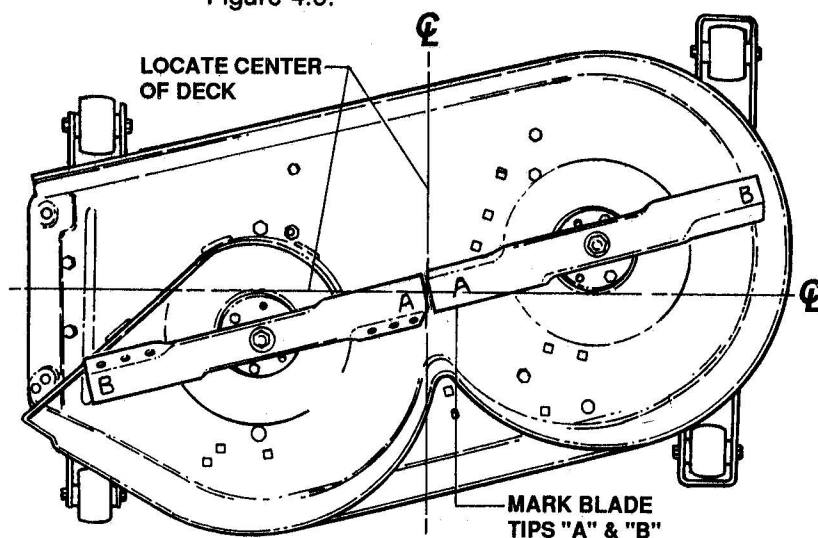

FIGURE 4.6
6. Mark each blade's tips, as "A" and "B". See Figure 4.6.
- (c) Locate center of deck. Refer to Figure 4.6.